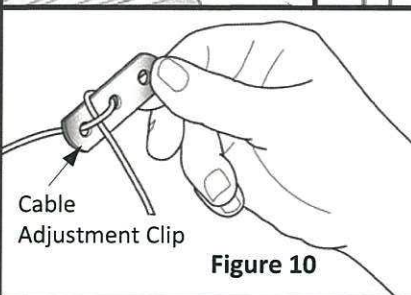

Figure 10
Step 10: Attach the Cable Adjustment Clip to the loose end of the Lifting Cable (Fig 10).